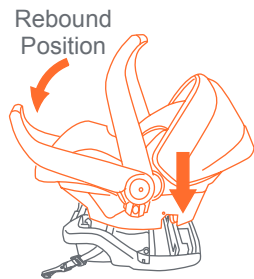

Fig. 23-1
- To attach the Safety Seat to the Base, align the Safety seat with the Base and push down until the Safety Seat latches onto the Base. Check that both sides of the Safety Seat are securely attached to the base. Rotate handle to Rebound Position (Fig. 23-1).